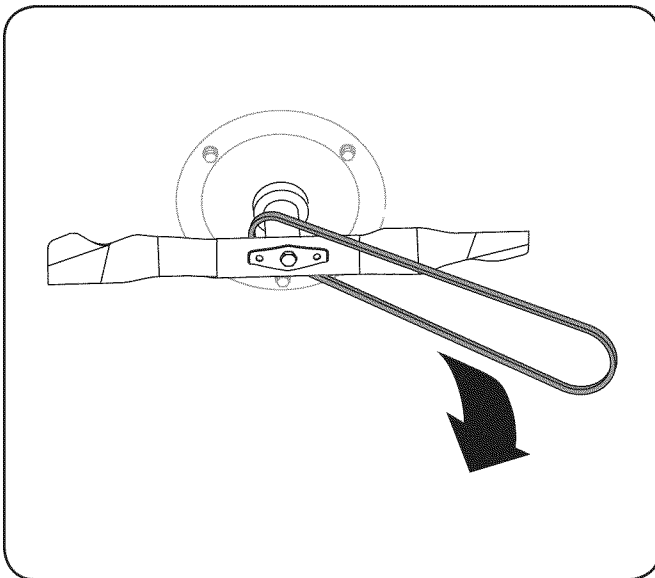

Figure 7-3
3. Push transmission up a little and slide belt off the transmission pulley. Lift mower to access belt from underside of mower. Slide belt off of engine pulley and around the blade. See Figure 7-3.